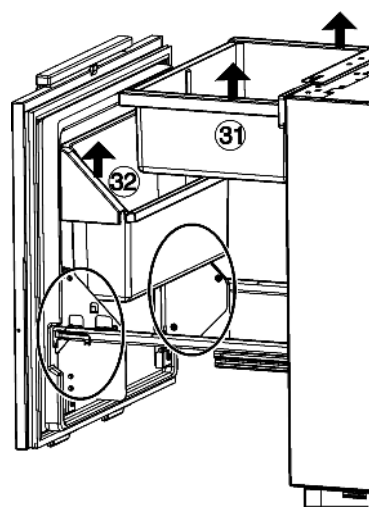

Fig. 26
- Lift up the vegetable drawer *Fig. 26 (31)* and bottle shelf *Fig. 26 (32)*.
- ▶ Reinsert the bottle shelf *Fig. 26 (32)* and the vegetable drawer *Fig. 26 (31)*.